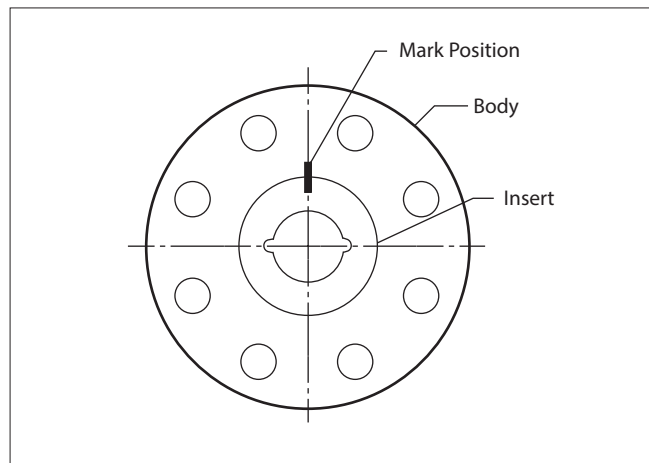
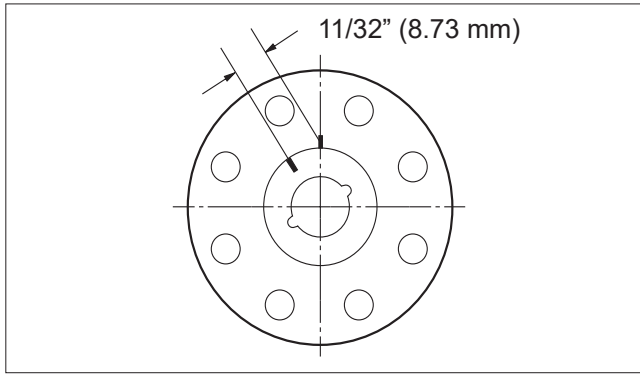

Figure 2.
Figure 3.
5. Insert the stem (4) with stem bearing (8) into the plug hole of the body (1) and into the cavity. Press the stem (4) gently into the stem bore until resistance is felt, being careful not to scratch the seals. A small hole is provided in the stem so a string or wire may be used to pull the stem through the stem bore.
6. Holding the stem in place from the bottom, drop on the compression ring (21). Screw on the stem nut (15).
8. Apply either PTFE tape or PTFE paste onto threads of plug (26). Insert the plug (26) into the hole in the bottom of the valve body (1), tighten plug.
9. Using a spanner wrench, screw the insert (2) into the body until it is fully seated, and then mark its position (**as shown in Figure 2**). Counting the number of turns, remove the insert.
10. Insert the ball (3), rotating it onto the stem (4) in the closed position. If necessary, turn the stem blade to align with the ball slot.
11. Insert the second spacer (37) and the second seat (5) so that the sealing surface of the seat is towards the ball.
12. Insert the body seal (6) and gently press it into the groove in the body.
13. Using a thread lubricant compatible with the media, screw the insert (2) into the body and tighten to 170 – 200 FT•LBS (231 – 271 N•m). If a torque wrench is not available, tighten the insert the same number of turns as in step 8 until the marks line up according to the 11/32" (8.73 mm) dimension (**illustrated in Figure 3**).